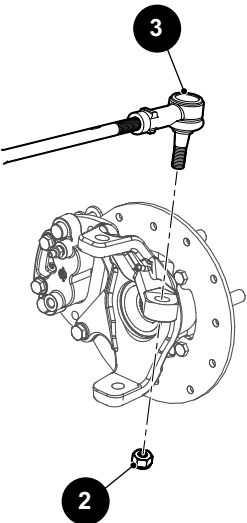
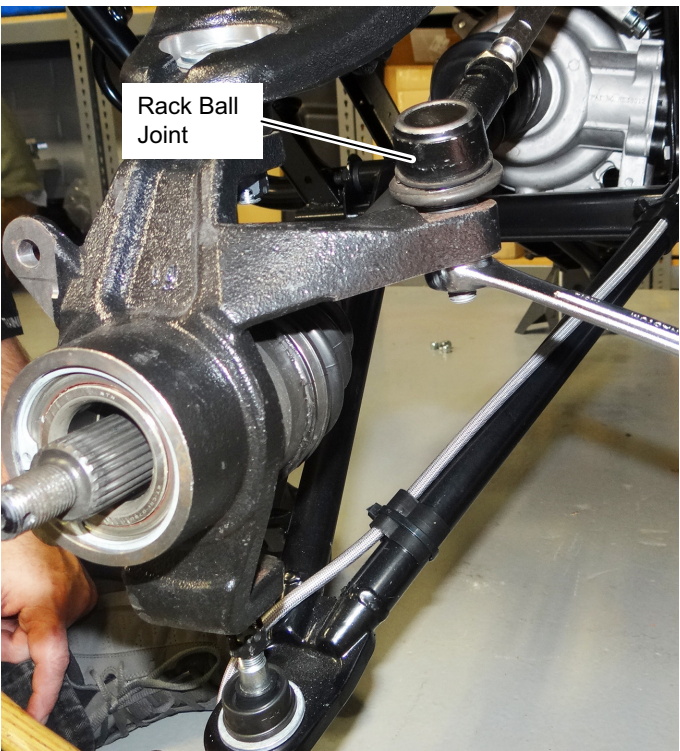

Fig. 5
Fig. 6 Rack Ball Joint
- 5. Remove the nut (2) that secures the spindle to the steering rack ball joint (3) (Ref. Fig. 5)(Ref. Fig. 6). Tap the spindle assembly with a hammer to separate it from the ball joint.